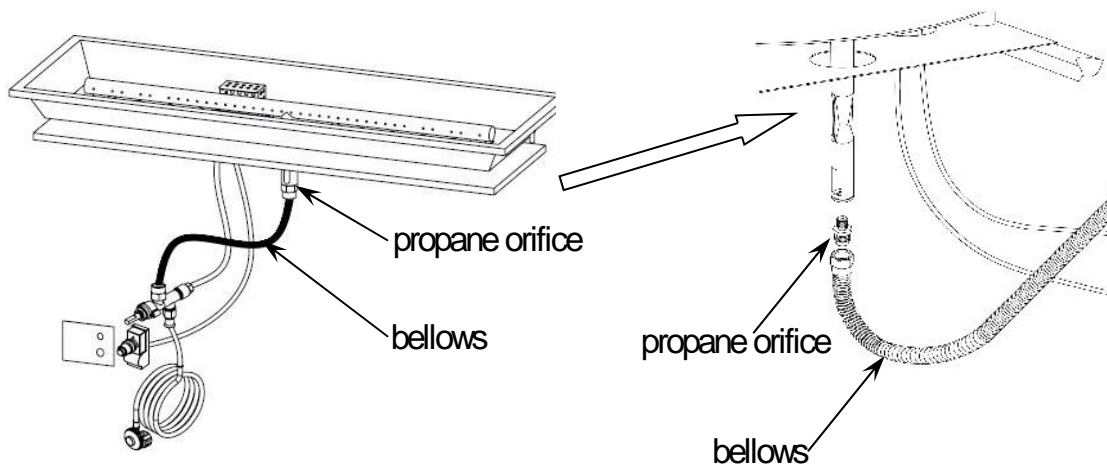

Figure 12
2. Unscrew and disconnect the propane orifice from the bellows, see Figure 12. Propane orifice (dia2.09mm size) is painted with red mark.